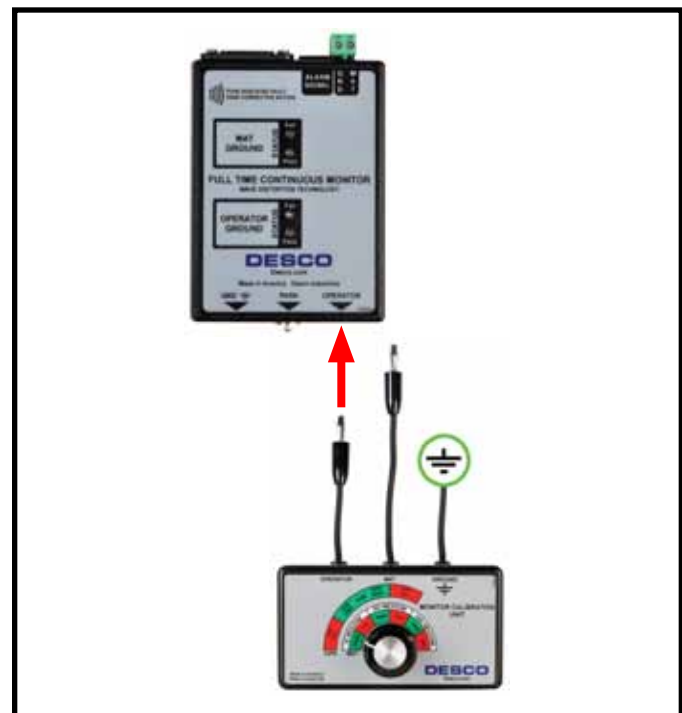

Figure 2. Connecting the OPERATOR test lead from the Monitor Calibration Unit to the Full Time Continuous Monitor
Step 2: Insert the Calibration Unit's banana plug labeled "OPERATOR" into the jack labeled "OPERATOR" on the Full Time Continuous Monitor (see Figure 2). Power the monitor.